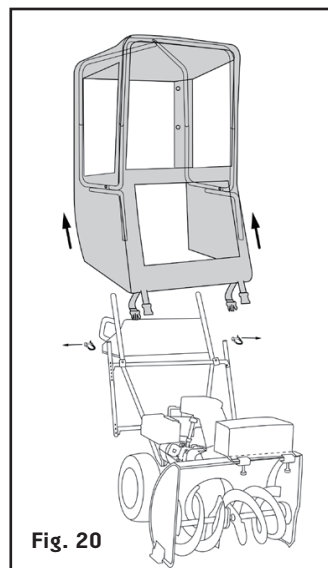

Fig. 20
3. Gently lift the cabin away from the lower frame supports (Fig. 20).